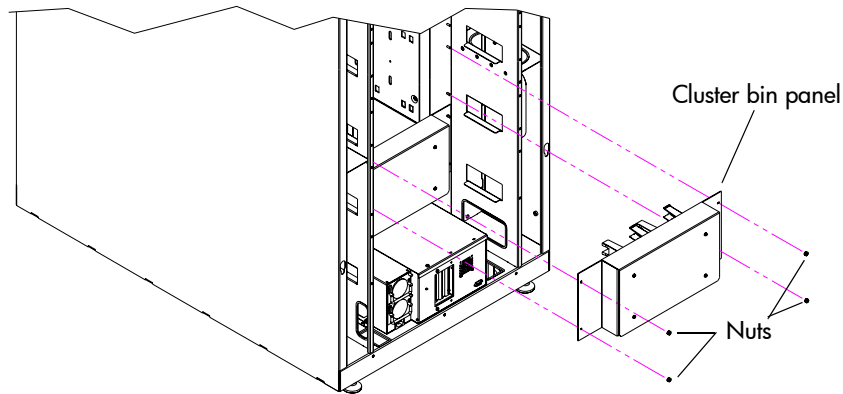

Figure 26: Removing a cluster bin panel
3. Using a 11/32-inch nut driver, remove the four nuts securing the cluster bin panel to the library (see Figure 26).